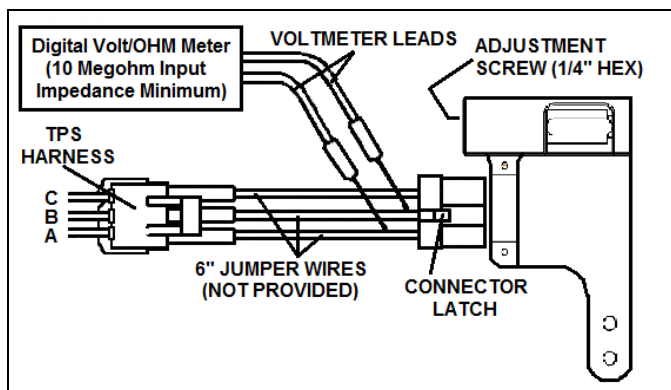

Figure 3
4. Use the wiring diagram provided for adjustment procedure (Fig. 3).
1. Unplug the 3 pin connector from the TPS. Attach jumper wires (not provided) between the TPS and the connector, as shown in Figure 3.